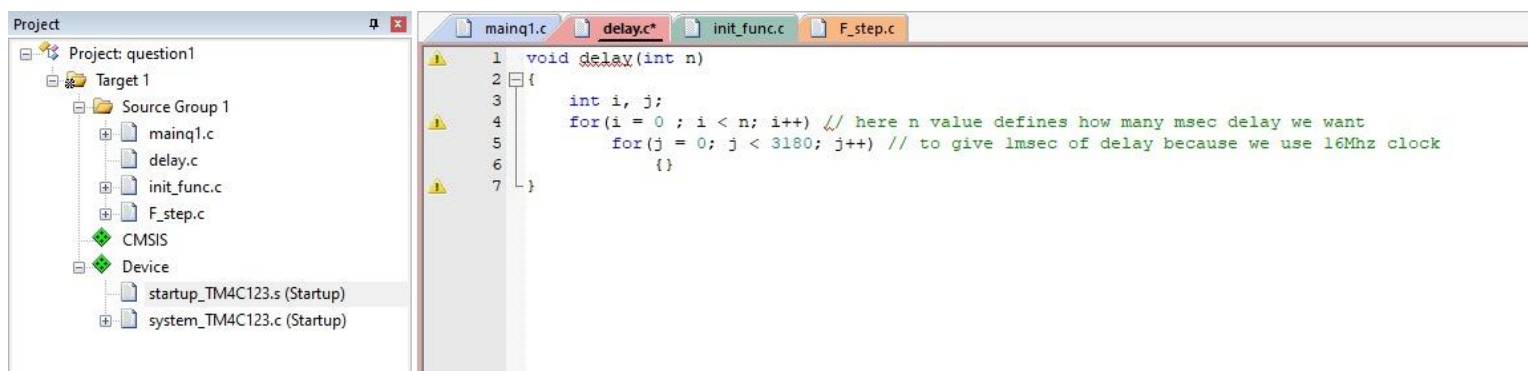

Figure 2:One milisecond delay function
- In delay function we arranged it to give 1 miliseconds of delay in each call. It can be seen in figure 2